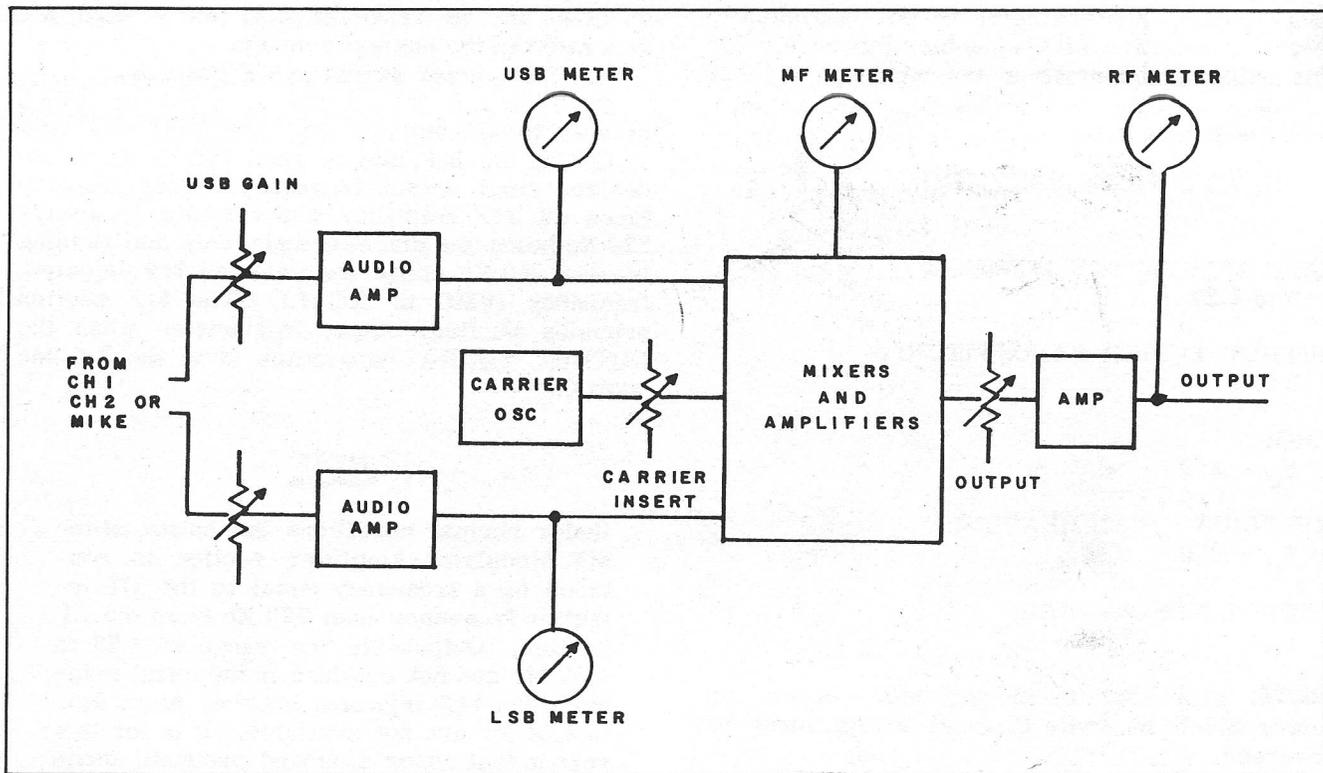

Figure D-3-3 Metering and Gain Controls Block Diagram
A. Consult Figure D-3-3 for an illustration of where the carrier insertion, audio gain and metering circuits are located electrically and the function of each.